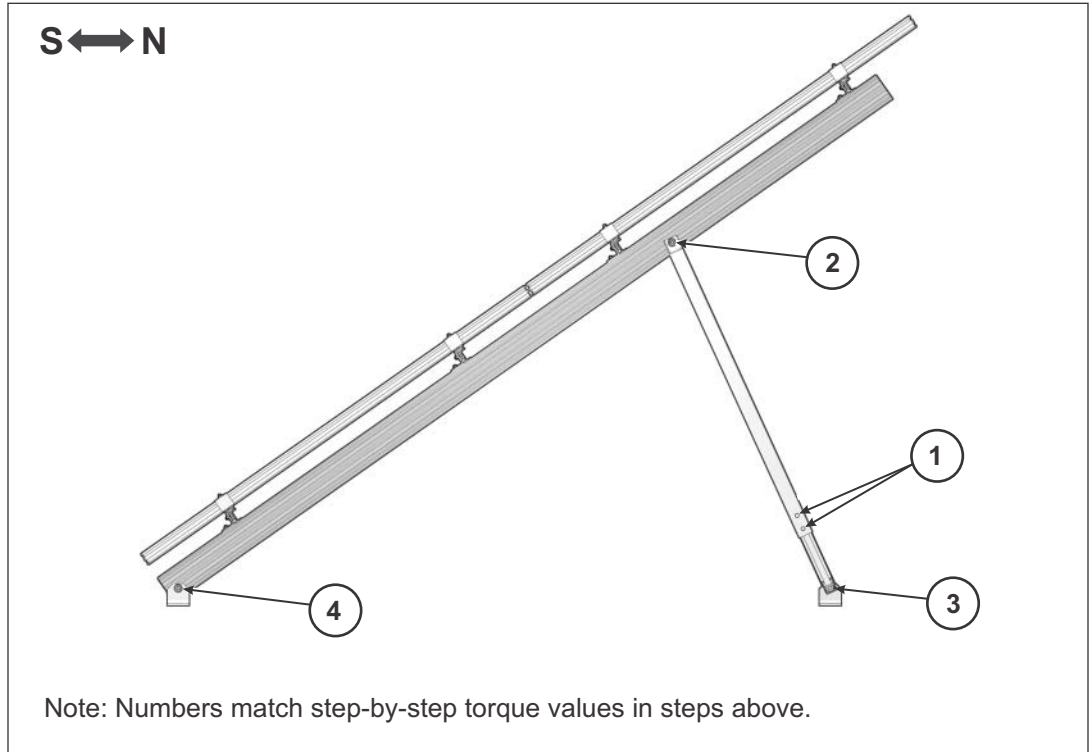

Figure 9-2: Retighten and Torque Hardware
- E. Re-tighten and torque hardware as follows (See Figure 9-2):